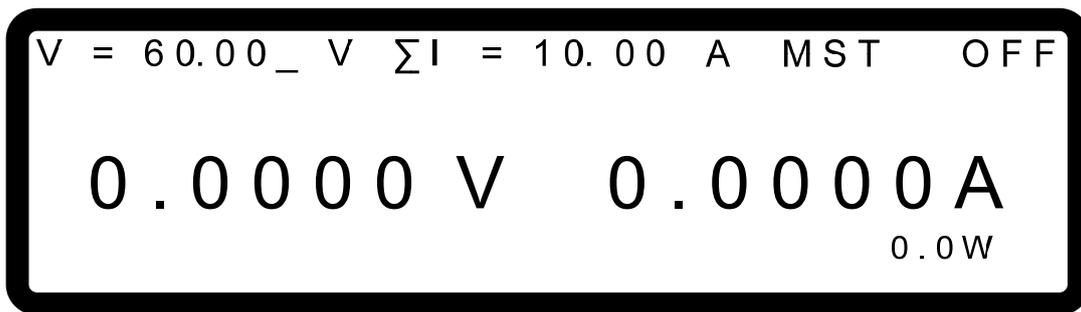

Figure 3-46
MAIN PAGE is mainly used to set voltage (V) and current (I). The difference between single unit and parallel operation is that the current set will increase following the number connected in parallel. The current set is indicated by Σ I for easy identification. When set to MASTER, MST will appear at the window's upper right corner as Figure 3-46 shows below.